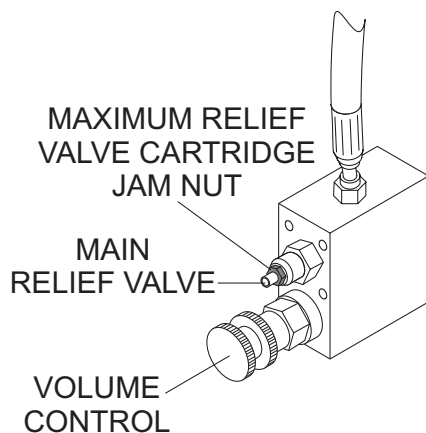
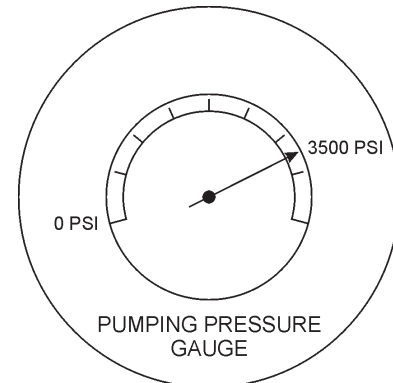

Figure 45. Hydraulic Drive Pump Manifold
Figure 46. Pumping Pressure Gauge
4. Start the engine and loosen the jam nut located on the **maximum relief valve cartridge** (Figure 45).
5. Run the engine at maximum RPM (2550) and turn the volume control knob **counter-clockwise** to maximum volume position (Figure 45).
6. On the electrical control panel, turn the **pump control switch** (Figure 22) and the **test switch** (Figure 31) to the "**ON**" position. Using an allen wrench, adjust the **main relief valve** (Figure 45) to **3500 PSI**. The reading can be taken from the **pumping pressure gauge** (Figure 46).